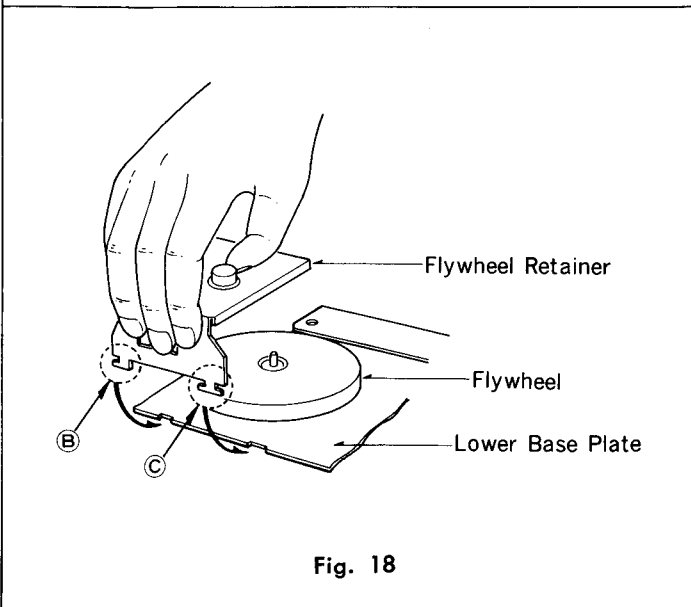

Fig. 18
3. Engage the parts (B) and (C) of the flywheel retainer with the lower base plate as shown in fig. 18.